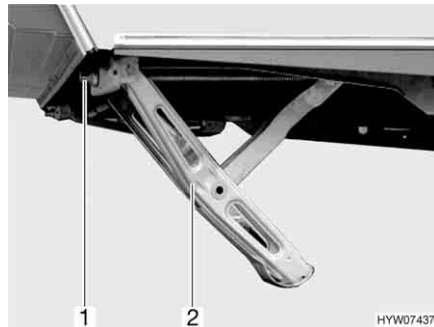

Fig. 21 Corner steady cranked down
- Place the hand crank provided as standard on the hexagonal nut (Fig. 21,1) of the corner steady (Fig. 21,2).